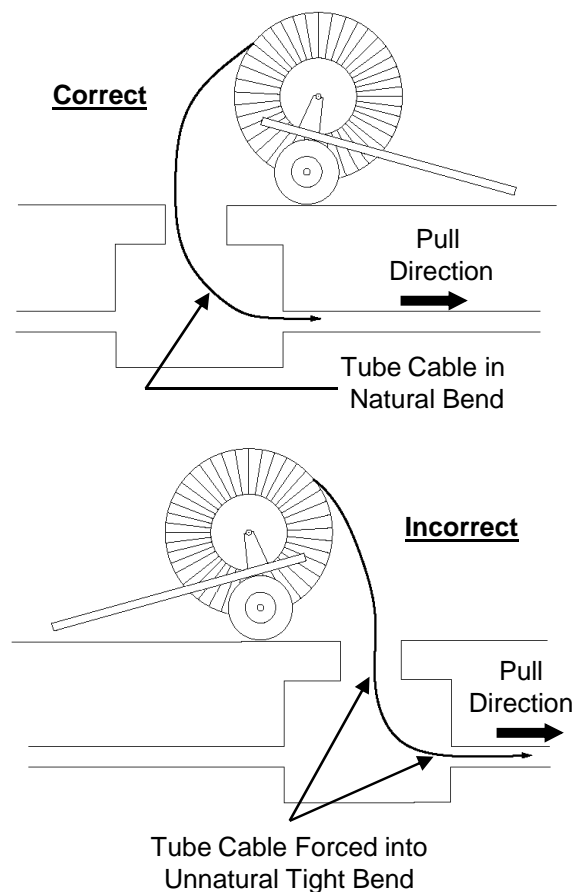

Figure 16
16.1.3 Position tube cable reel so that it is on the same side of the maintenance hole as the direction of the pull with cable payoff from the top. **See Fig. 16.**